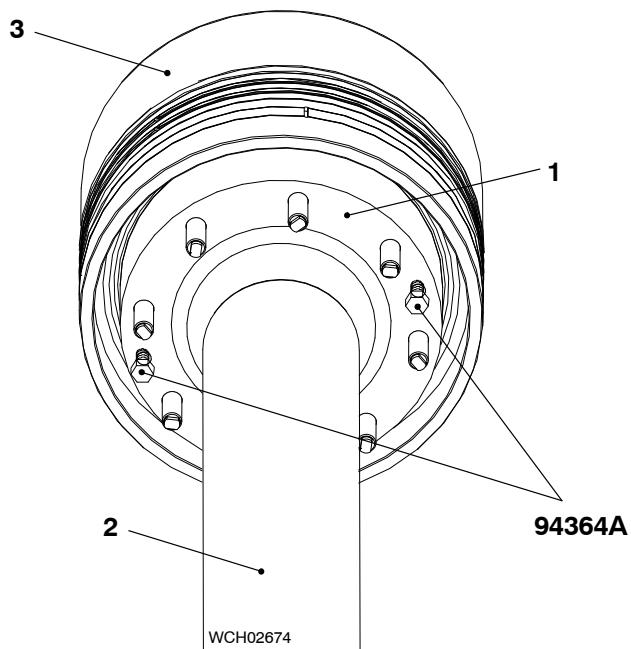
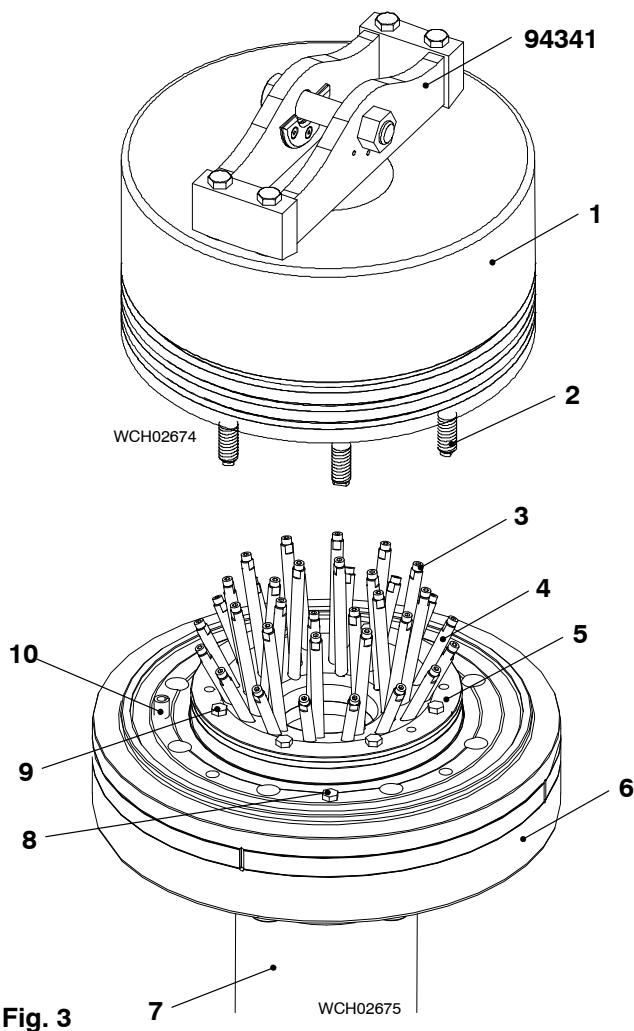

Fig. 2
Fig. 3
- 1) Put the two jacking screws (94364A, Fig. 2) fully into the two tap holes in the top of the piston rod (1). Make sure that the jacking screws touch the piston head (3).
- 2) Equally tighten the two jacking screws until there is a clearance between the piston head (3) and the piston rod (2).
- 3) Attach the engine room crane to the tool (94341, Fig 3)
- 4) Use the engine room crane to lift the piston head (1).
- 5) Move the piston head (1) to an applicable area.
- 6) Remove the jacking screws (94364A) from the top of the piston rod (2).